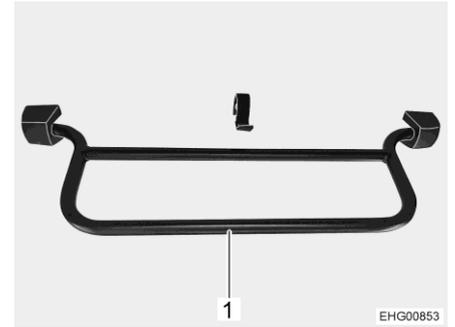

Fig. 36 Bar, elevating roof at the rear (C 530)
- Pull the elevating roof downwards by the bar (Fig. 36,1).